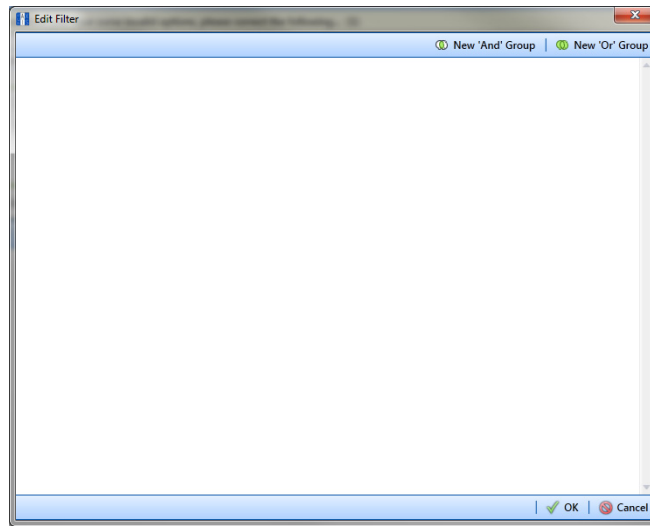

Figure 10-49. Edit Filter
- b** Click  **Edit** in the *Filters* group box to open the *Edit Filter* dialog box (Figure 10-49).